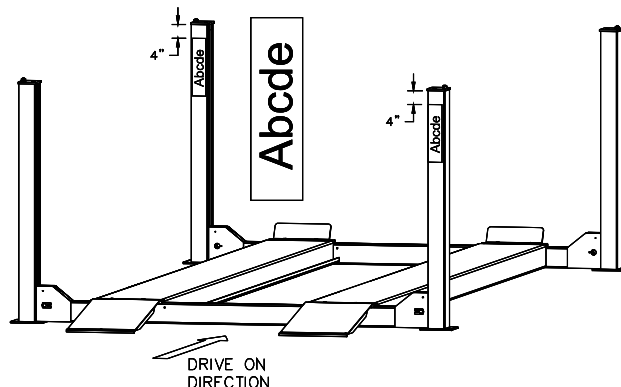

Fig 22 – Decal Placement
47) Apply decal 4" from top of columns, **Fig 22.**